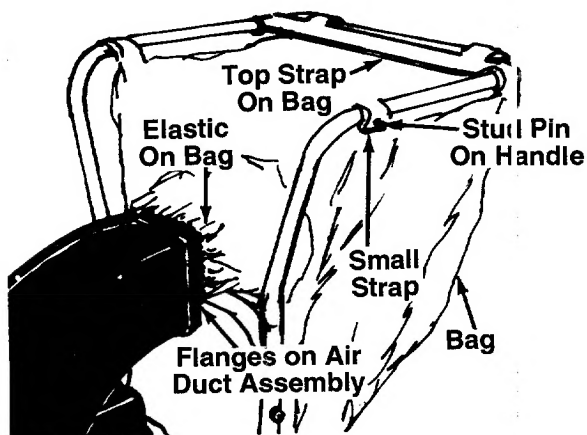

FIGURE 8.
2. Assemble the bag by slipping the top straps on bag over upper handle. Hook two small straps over stud pins on handle. Slip elastic opening of bag over air duct assembly. Be certain elastic on bag is placed over the flanges on air duct assembly. See figure 8.